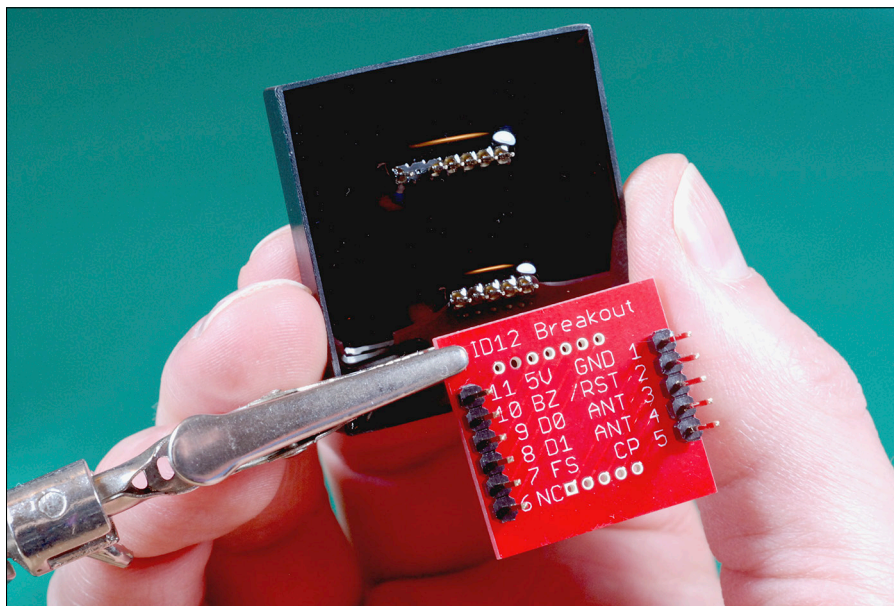

Figure 9-3:
The SparkFun breakout board allows you to work with your reader on a breadboard, and it fits any of the ID Innovations readers (even though it's labeled ID-12). Their pins have a 2mm pitch, so they do not fit into a regular breadboard, which has holes spaced at 0.1" (2.54mm), so you have to use the breakout board for any prototyping. In fact, even if you aren't planning to use a breadboard, the breakout board is handy because the 2mm pins are really pretty inconveniently close together to work with. The breakout board also is registered to fit into the RFID reader in only the correct orientation. One of the pins on the reader is missing, and the breakout board aligns with this missing pin, as shown in Figure 9-3.
2. **Insert the pins into your breadboard so that they can accommodate the breakout board, as shown in Figure 9-3.**